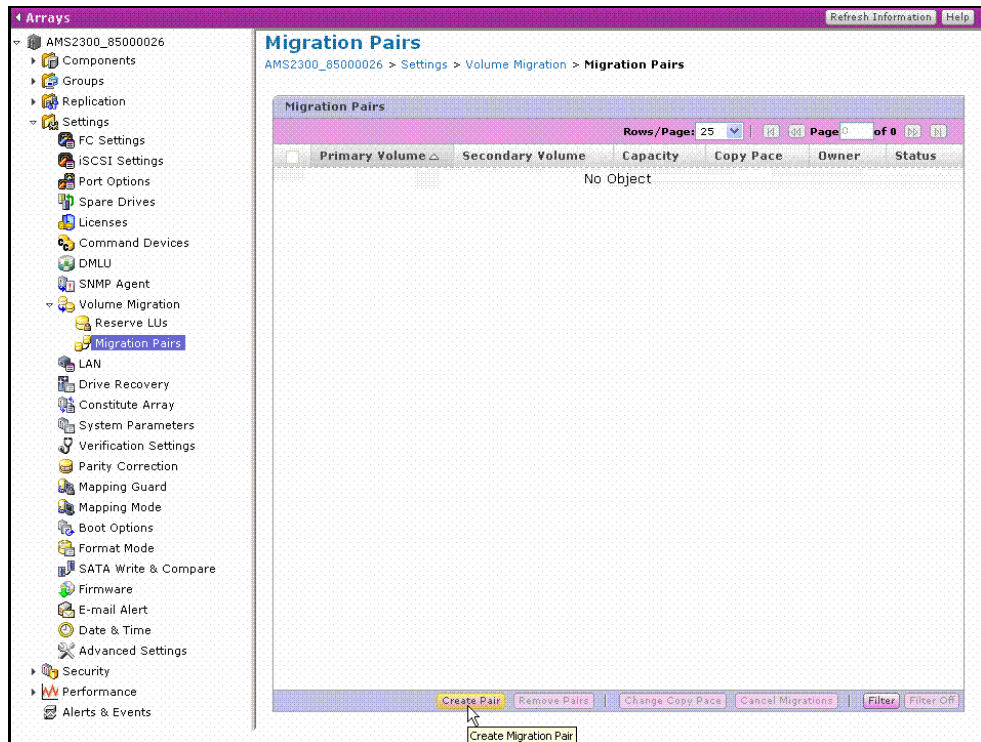

Figure 11-14: Array Unit Window-Pair
4. Click **Open Advanced Settings**. After some minutes, the Array Unit window appears, as shown in Figure 11-14.
4. Click **Open Advanced Settings**. After some minutes, the Array Unit window appears, as shown in Figure 11-14 on page 11-21.